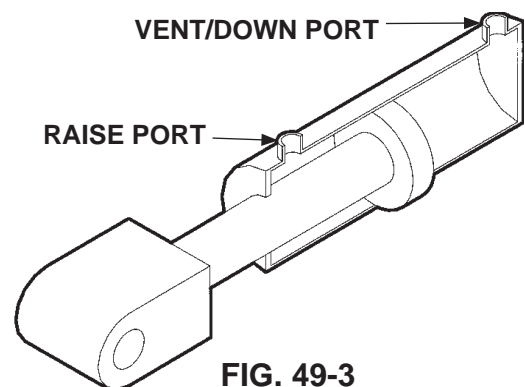

FIG. 49-3
3. Check the hydraulic cylinder. With the platform on the ground, remove the hydraulic line from the vent/down port of the cylinder (**FIG. 49-3**). Raise the platform even with the bed. Allow pump motor to run two seconds more while you watch for hydraulic fluid at the vent/down port. A few drops of hydraulic fluid escaping the vent/down port is normal; however, if it streams from the vent/down port, piston seals are worn. Replace seals.